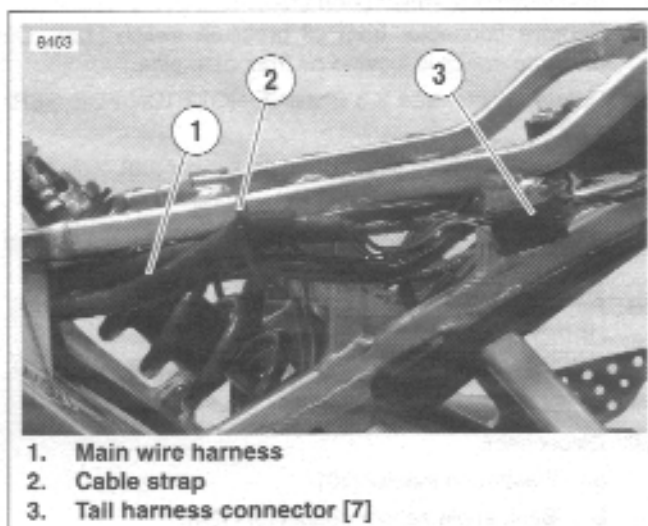
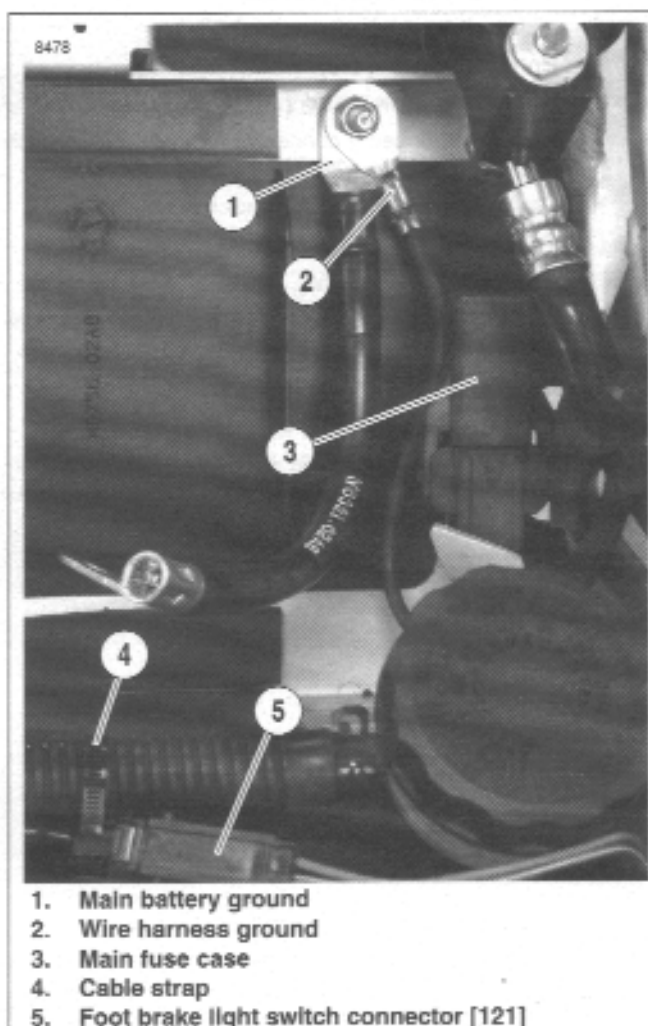

Figure 7-72. Tail Harness Connector
Figure 7-73. Battery Tray Wiring
7. See Figure 7-72. Disconnect tail harness connector [7] (3).
8. See Figure 7-73. Remove wire harness ground (2).
9. Remove main fuse case (3).
10. Disconnect foot brake light switch connector [121] (5).
22. See Figure 7-73. Connect foot brake light switch connector [121] (5). Install cable strap (4).
23. Install main fuse case (3).
24. Install main battery ground (1) and wire harness ground (2). Tighten fastener to 48-72 in-lbs (5.4-8.1 Nm).
25. See Figure 7-72. Connect tail harness connector (3). Attach cable strap (2).